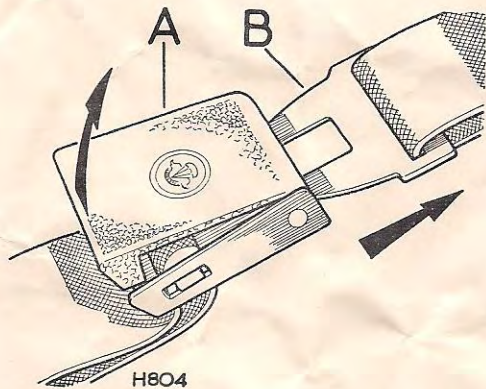

Fig. 10 Releasing safety harness buckle
14. To undo the buckle and leave the seat, simply lift the front of buckle at 'A'. The two sections of harness will instantly fall apart, as shown in Fig. 10.